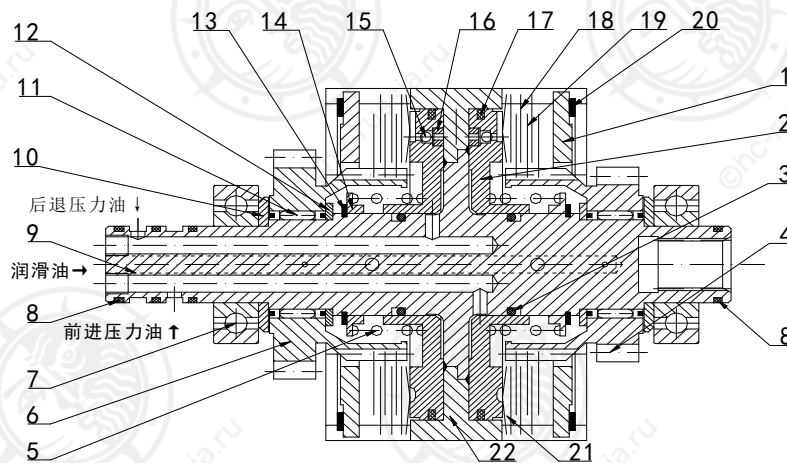

Fig 4-6 1.0t-1.8t hydrodynamic power clutch
YQX18 clutch is used in 1.0t-1.8t, and its structure drawing refers to Fig. 4-6. YQX18-1000 clutch assembly structure is similar to YQX30-1000 clutch assembly, but the difference is that the YQX18-1000 left and right clutches equipped with interphase -installed four septa, four discs and one butterfly plate.
- Replace the ring(A)、(B) if it is damaged.
- Restrained ring(A)、(B) should face to gears.
6. Oil-supply pump (Refer to fig.4-6)
Fig. 4-6 oil-supply pump